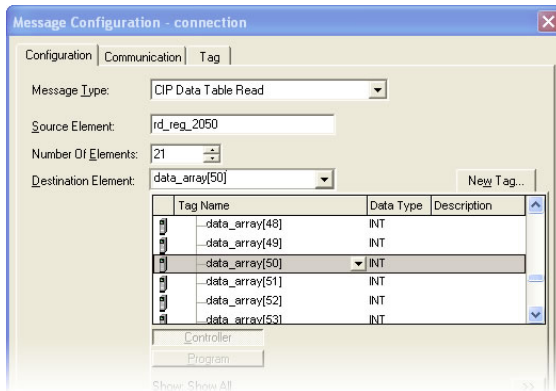

Figure 105: Selecting the Destination Element
- iv) For the Destination Element, either directly type "data_array[50]", or select element #50 in the data_array tag via the drop-down box (refer to Figure 105). The destination could be any offset in the data_array tag, as long as the offset plus the Number Of Elements (21) does not exceed the tag's defined size (73).